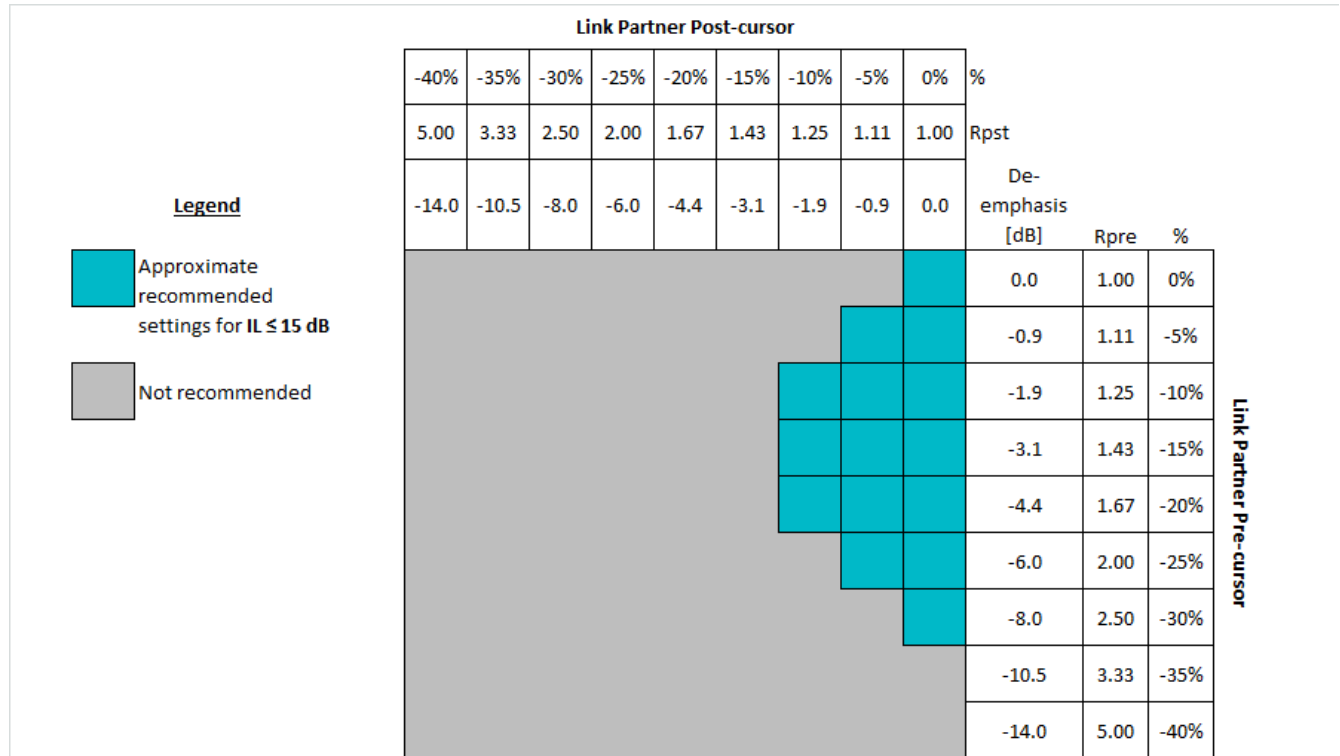
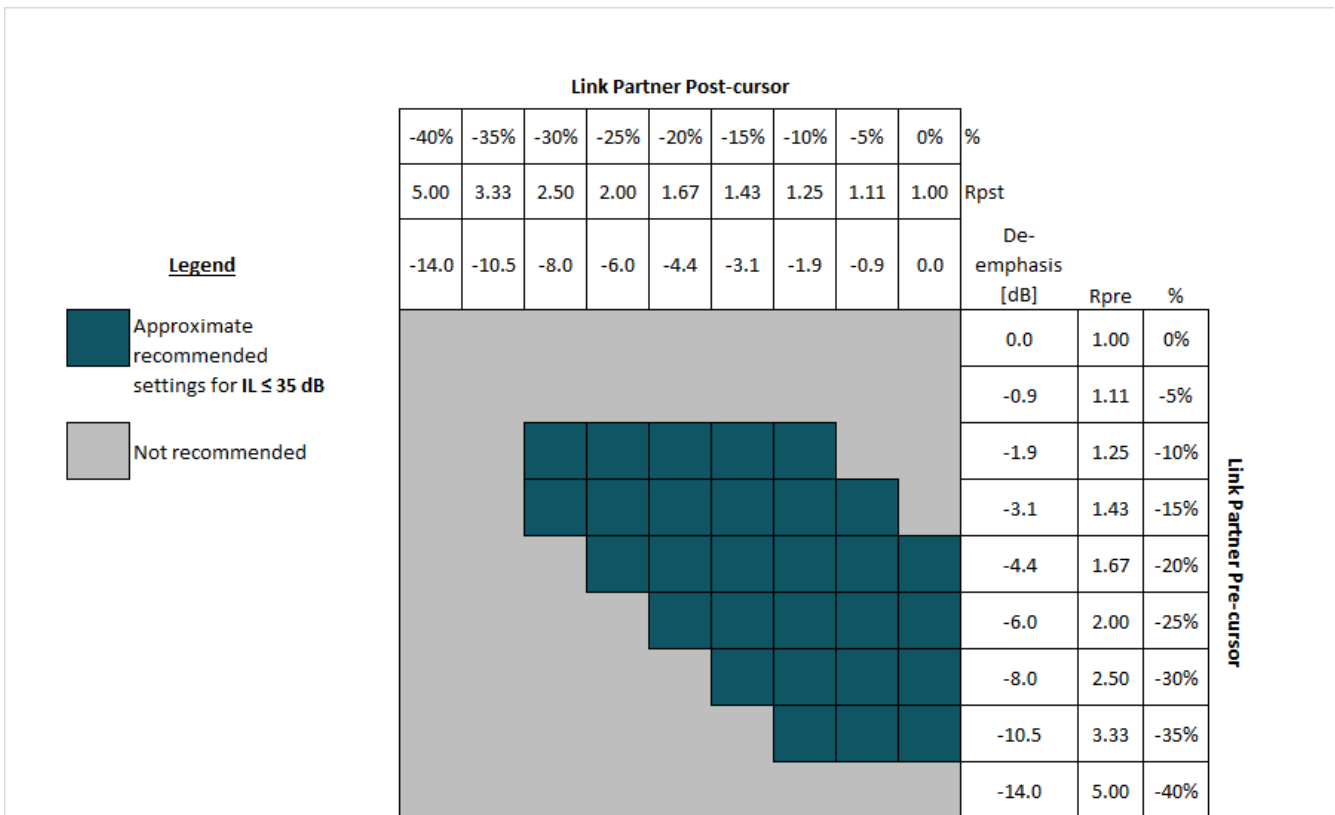

图 8-5. Guideline for Link Partner FIR Settings When IL ≤ 15 dB
图 8-7. Guideline for Link Partner FIR Settings When $IL \leq 35$ dB
The recommended pre-cursor and post-cursor settings for a given channel will depend on the channel characteristics (mainly insertion loss) as well as the equalization capabilities of the downstream receiver. The DS250DF230 receiver, with its highly-capable CTLE and DFE, does not require a significant amount of pre- or post-cursor. The guidelines in 图 8-5 through 图 8-7 give general recommendations for pre- and post-cursor for different channel loss conditions. The insertion loss (IL) in these plots refers to the total loss between the link partner transmitter and the DS250DF230 receiver.